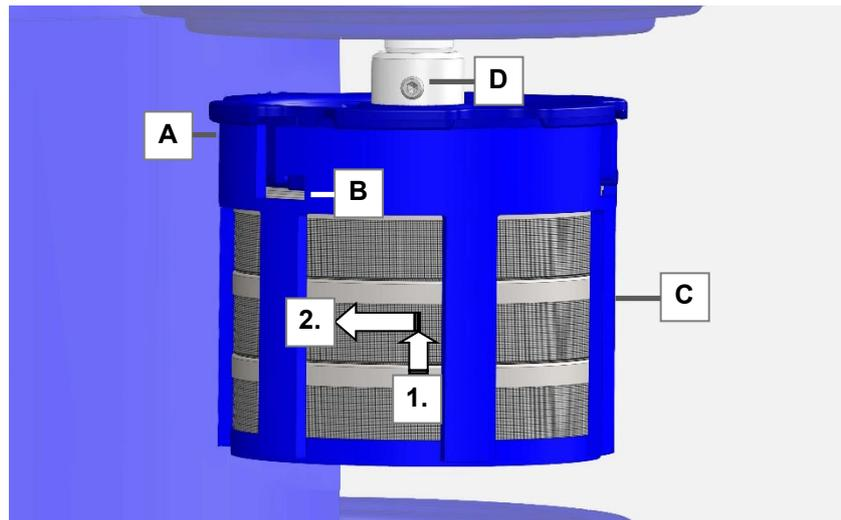

Fig. 6.2.1. Basket holder attached
The cleaning basket is connected to the cleaning machine by the basket holder (Fig. 6.2.1.C) using bayonet connection over the mounting (Fig. 6.2.1.A).
Hold the mounting (Fig. 6.2.1.A) firmly with one hand, then first press the cleaning basket slightly upwards (Fig. 6.2.1.-1) and then turn it anticlockwise (Fig. 6.2.1.-2) out of the locking elements (Fig. 6.2.1.B).
- A** **Mounting** for cleaning basket and movement holder. During removal of the cleaning basket, the mounting remains screwed to the drive shaft using a grub screw (Fig. 6.2.1.B.).
Now fasten the cleaning basket in the mounting of the cleaning machine again (Fig. 6.2.1.A).
Ensure that the cleaning basket is correctly locked in the locking mechanism (Fig. 6.2.1.B).
Ensure that the holder is correctly screwed to the drive shafts (Fig. 6.2.1.D).
Ensure that the holder is correctly screwed to the drive shafts (*Fig. 6.2.1.D*).